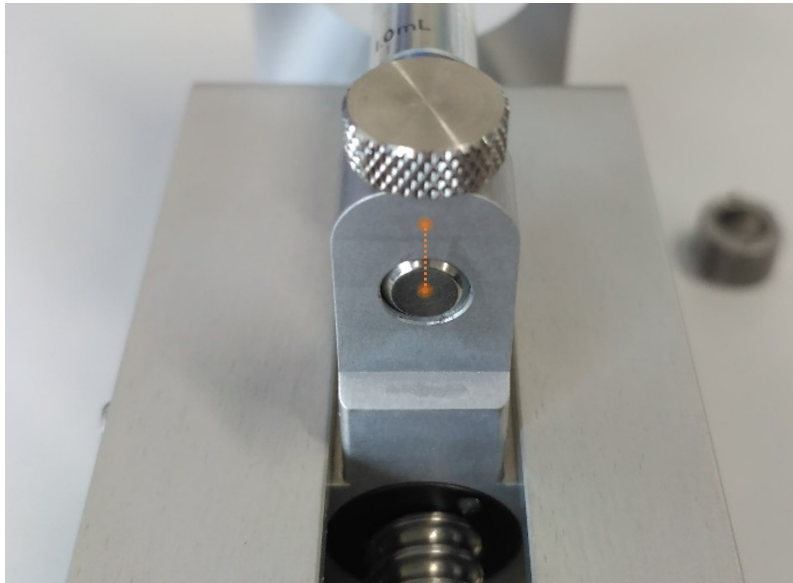

FIGURE 4.4 – Alignment to be obtained when screwing the plunger lock screw
13. Align the plunger bottom with the holder, according to Figure 4.4. The two surfaces marked in orange should be coplanar.